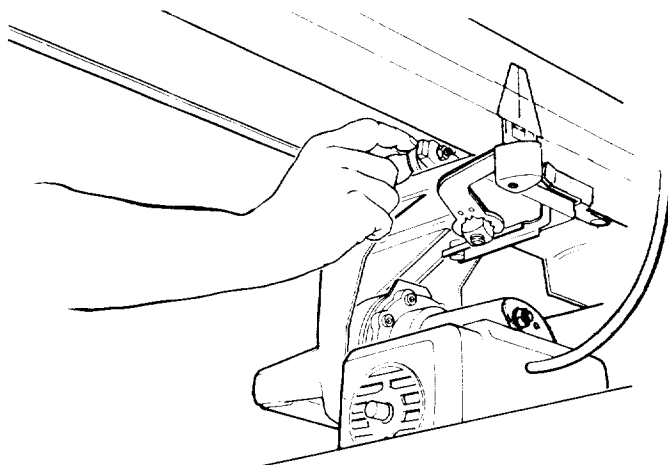

Fig. 71
12. Pinch the *front carriage bearing* with your fingers as tightly as possible while you pull the *motor* forward with the other hand. Try to keep the *carriage bearing* from turning. (Figure 71)